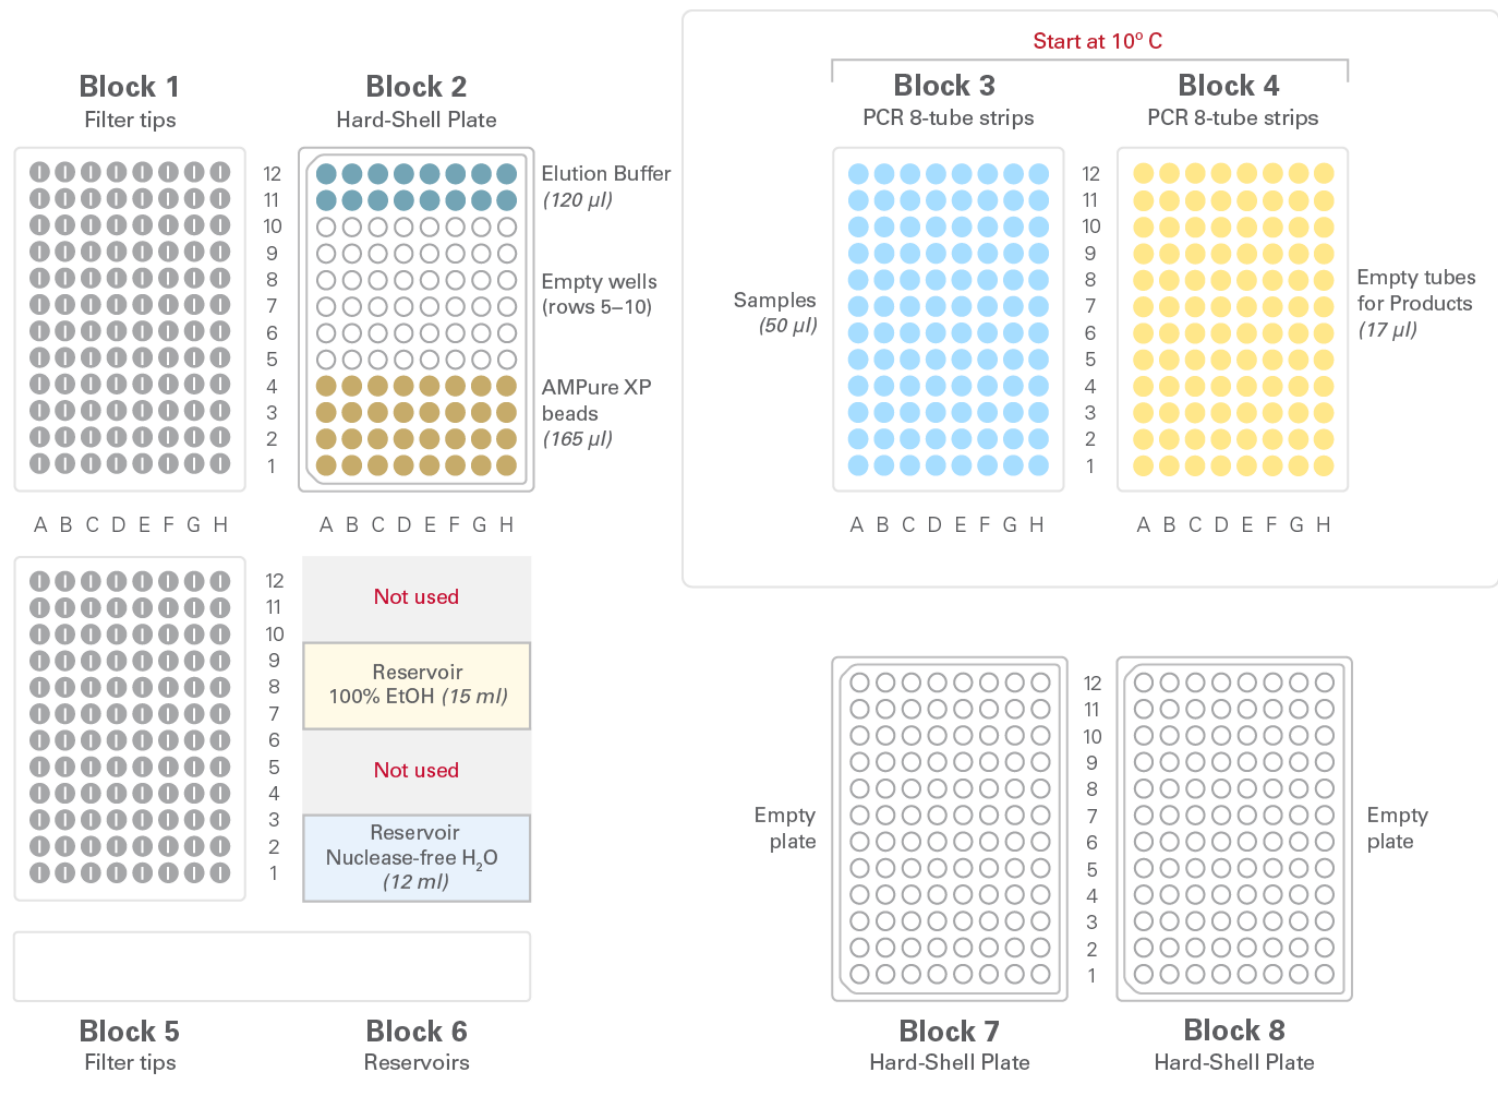

Figure 10. Deck layout for PCR cleanup from 96 samples. For this protocol, use script `SSv4_4_PCRCleanup_96_v1-1.scb`. Run time is 2.5 hr.
- Load consumables onto the SMARTer Apollo work surface (see Figure 10 or 11). First, load the consumables that do not initially hold reagents. Next, on the benchtop, aliquot reagents and samples into the indicated consumables according to the table below. Load them onto the system just before the run.